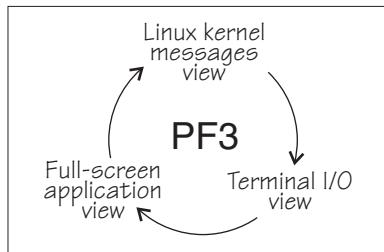

Figure 54. Switching views of the 3270 terminal device driver
Use function key 3 (PF3) to switch between the views (see Figure 54).